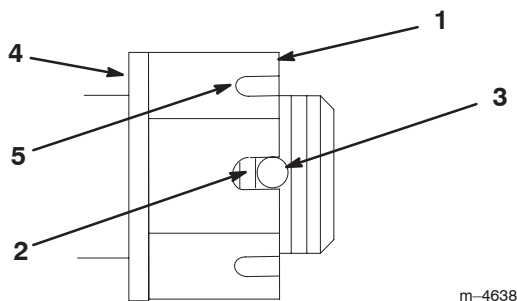

Figure 49
4. Torque the slotted nut to 125 ft-lb (170 N·m) (Fig. 49).
Note: No more than 2 threads should be showing (Fig. 49).
6. If more than 2 threads are showing, remove the nut and install a washer between the hub and nut (Fig. 49).
7. Torque the slotted nut to 125 ft-lb (170 N·m) (Fig. 49).
8. Tighten the nut until the next set of slots line up with the hole in the shaft (Fig. 49).